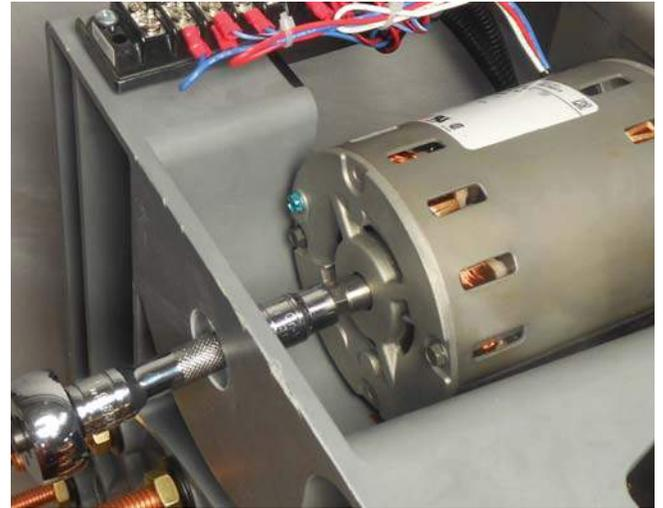

**Figure 60. Contact hardware installation**
8. Place a new Belleville washer and nut on each stud. The cupped side of the Belleville washer must face in toward the contact board. Use a 3/4" deep-well socket and ratchet to tighten the nuts. Using a torque wrench, tighten the nuts to a torque of 180–192 in-lbs (20.3–21.7 Nm). See Figure 60.